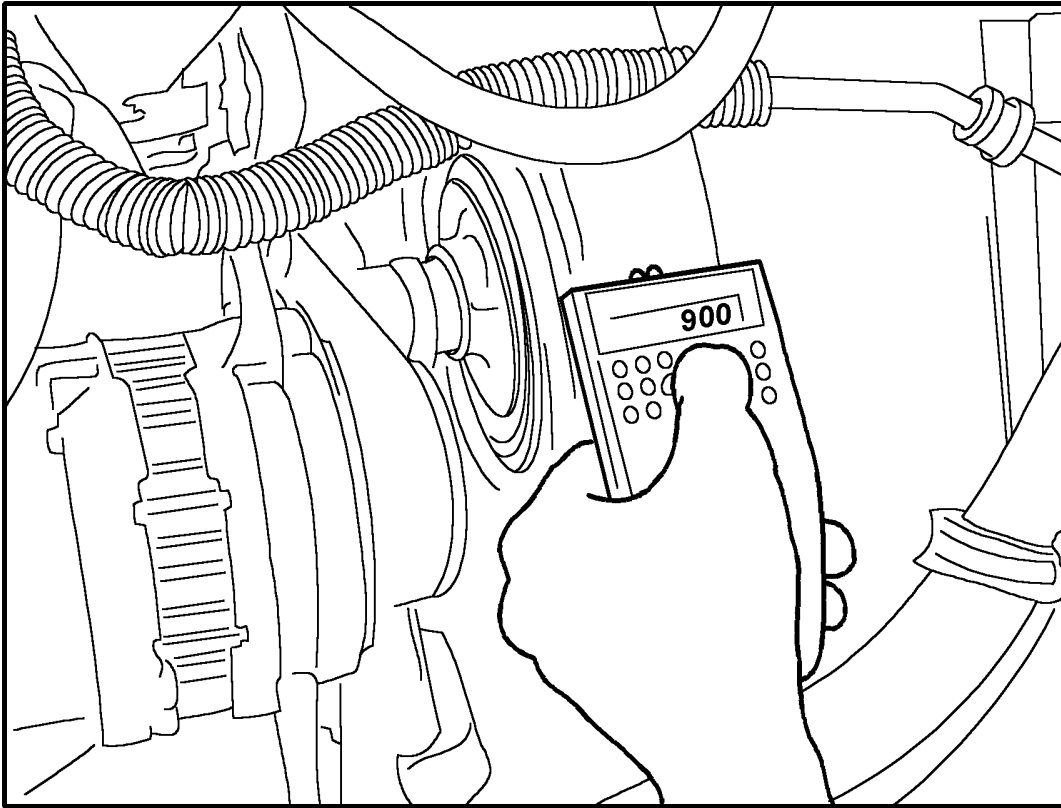

Figure 4 Measuring Fan Blade Speed with Digital Photo-Tachometer
17. Measure fan blade speed with the digital photo-tachometer (Figure 4).